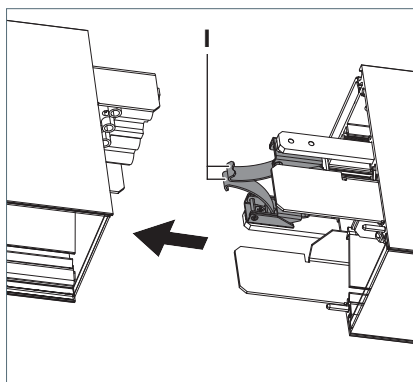

Fig. 23: Assembling the luminaires.
- Press the brackets **I** together, see Fig. 23.